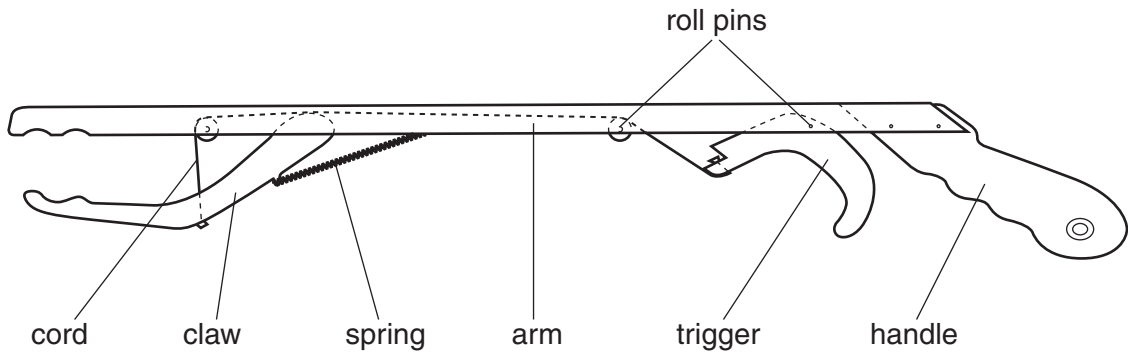

Fig. 6
Fig. 6 shows a view of a handheld mechanical reacher.
- (e) The handle, trigger, and claw of the reacher shown in Fig. 6 are all held in position by roll pins.